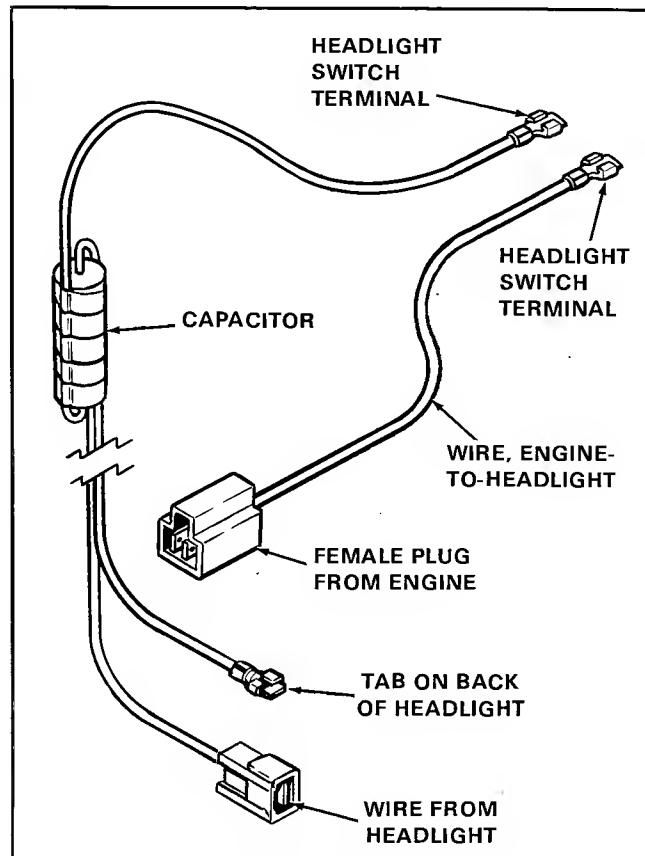

Figure 6. Disconnect and Remove Wires
11. Remove the capacitor assembly (figure 6) and the engine-to-light wire from the snowblower by disconnecting from points described in figure 6. These wires will not be needed.